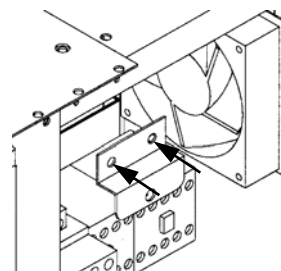

Figure A.4
- 7) Remove the 2 front top side panel support brackets, 2 screws each. (Figure A.4)
- 8) Replace side cover support brackets (Figure A.4) at top front of bottom unit and bottom front of top unit, using original screws.